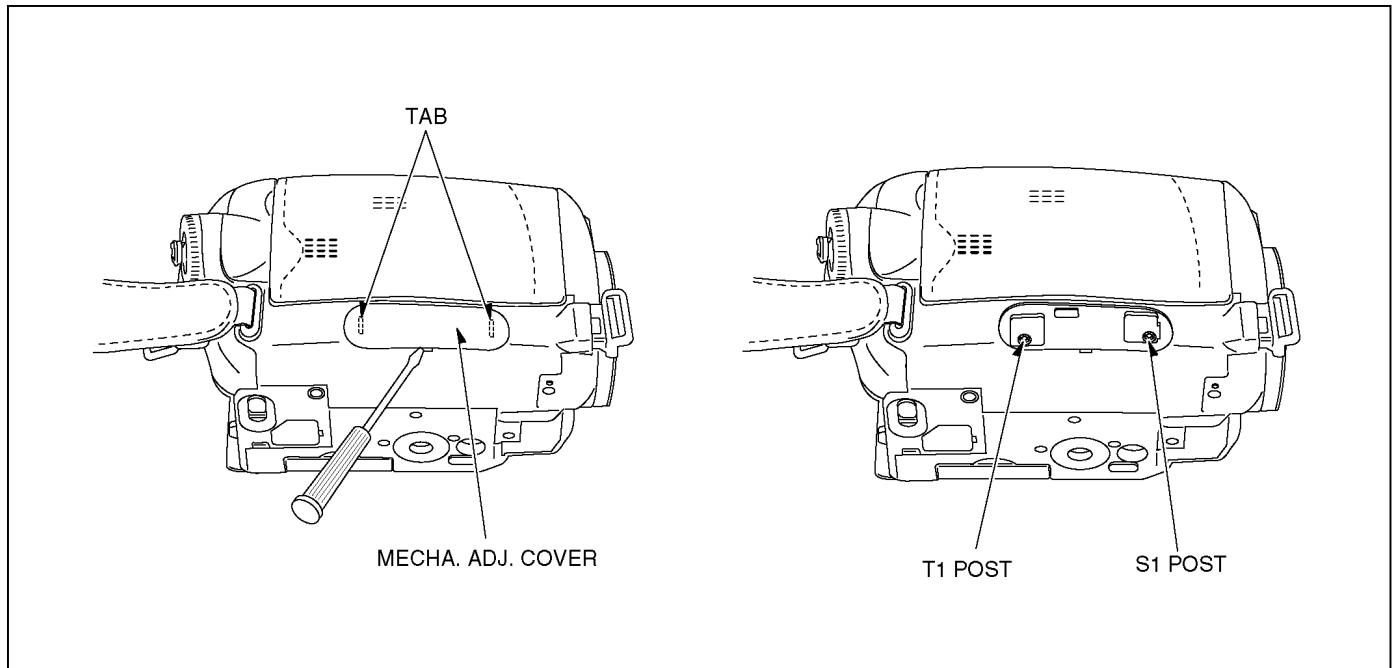

Fig. D1
1. Remove the mechanism adjustment cover of this machine as shown in Fig. D1.